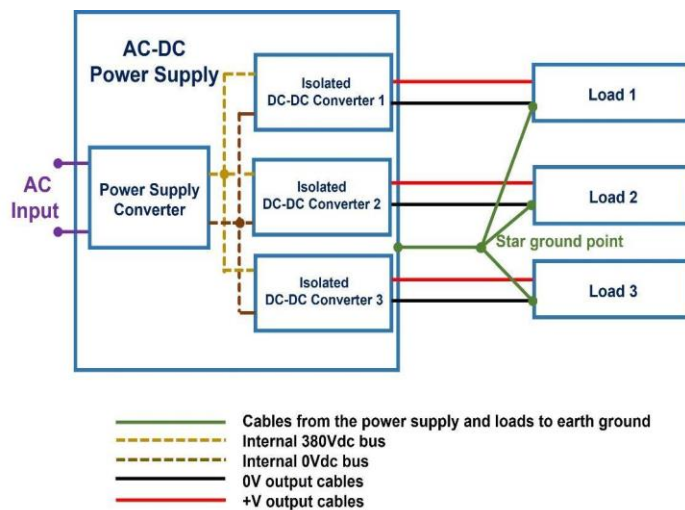
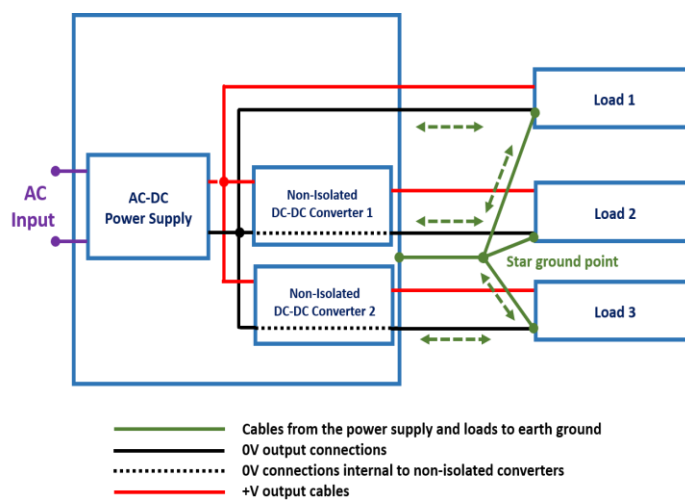

Figure 4: Modular power supply with star point grounding
Figure 5: Non-isolated DC-DC converter supply with star point grounding
**Avoiding ground loops:** Many systems have the negative input of the loads connected to earth ground. A central ground 'star point' connection is often used to avoid noise currents and spikes from circulating around the system wiring. This is easier to achieve and more flexible to apply with floating outputs, see Figure 4, rather than with non-floating outputs, see Figure 5, where there are multiple current paths through the 0V cables and power supply.